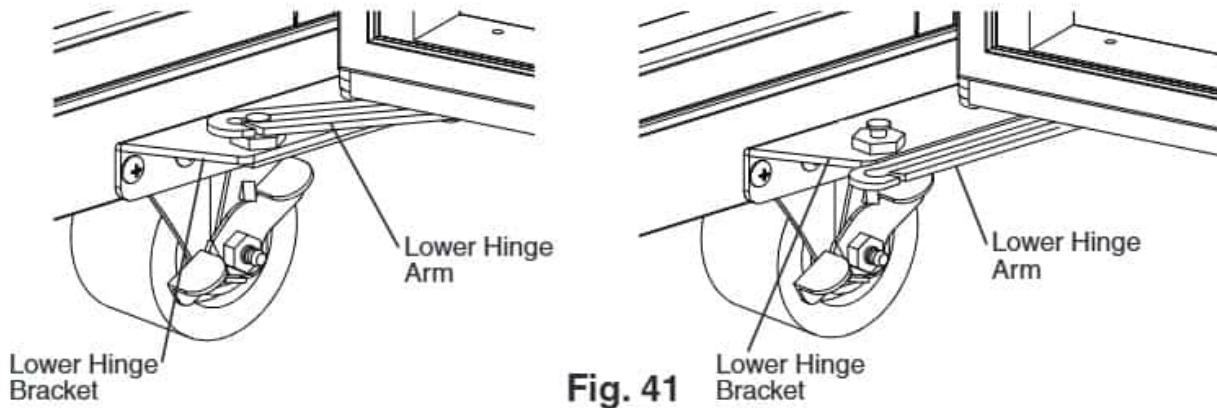

Fig. 41
- 7) Open the door. Using a flat head screwdriver, unhinge the lower hinge arm from the lower hinge bracket. See Fig. 41.